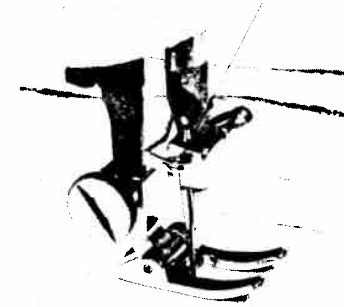

Fig. 25
- (1) Replace presser foot with buttonhole foot, (Fig. 25), which provides maximum visibility and allows closely spaced stitches to feed evenly.
- (2) Set needle position of lever in left groove.